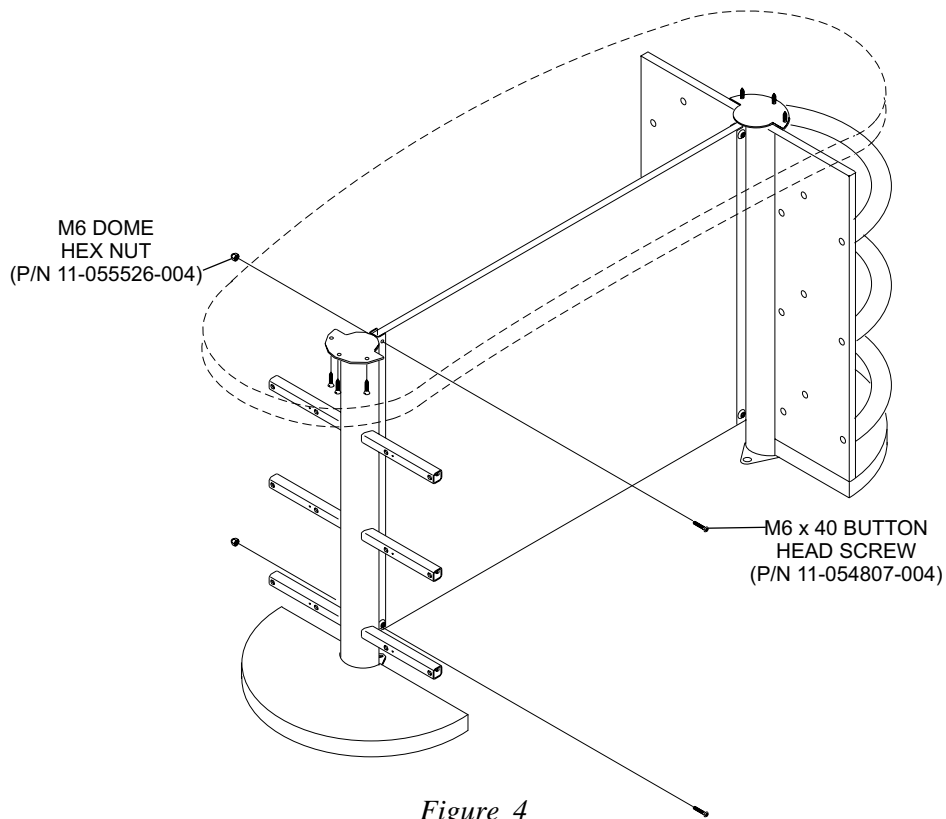

Figure 4
- Secure center panel to new trash can support with M6 x 40 button head screws (P/N 11-054807-004) and M6 dome hex nut (P/N 11-055526-004). Refer to *Figure 4*.